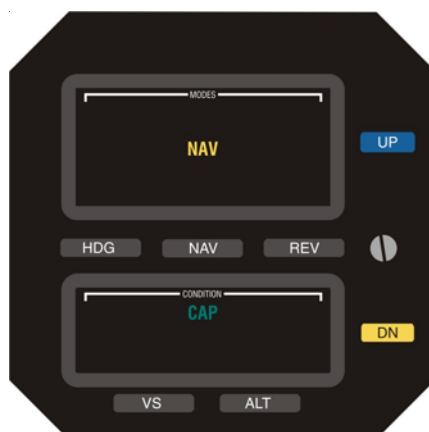

Fig. 3-3. AP Display, NAV Mode Engaged, CAP Condition
When the aircraft arrives at 15% CDI needle deflection, the course is captured. At that instant, a step reduction in autopilot gain occurs, so that the Course Pointer (HSI) or Heading Bug (DG) has sufficient authority to complete the intercept. In addition, the sensitivity to closure rate is reduced. The overall authority of the autopilot during this stage of the intercept sequence is called the CAP condition, which is acknowledged by the appearance of the CAP annunciation as shown in Fig. 3-3.